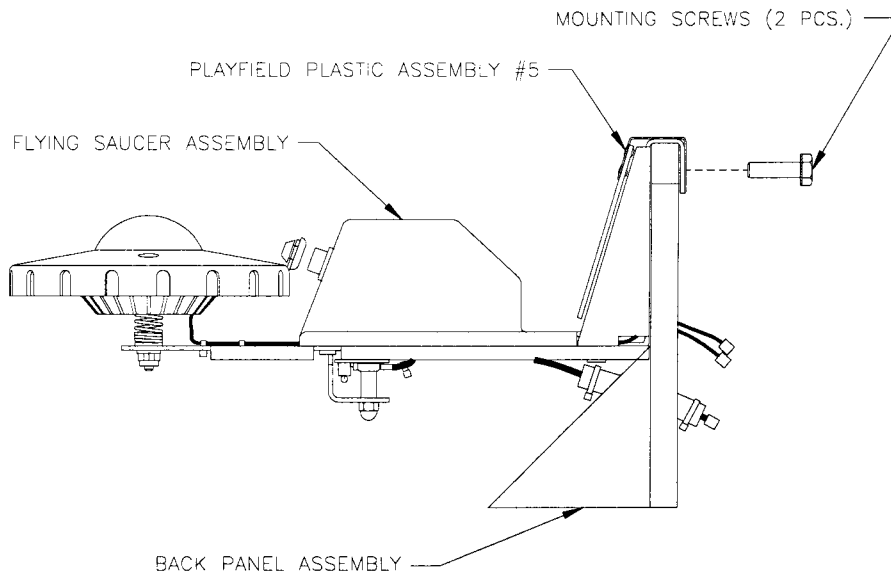

FIGURE 1
1. Remove the two mounting screws (p/n 4008-01113-16) that attach the Flying Saucer Assembly (p/n A-20608) and Playfield Plastic Assembly #5 (A-20771-5) to the Back Panel Assembly (A-20578). (See Fig.1)